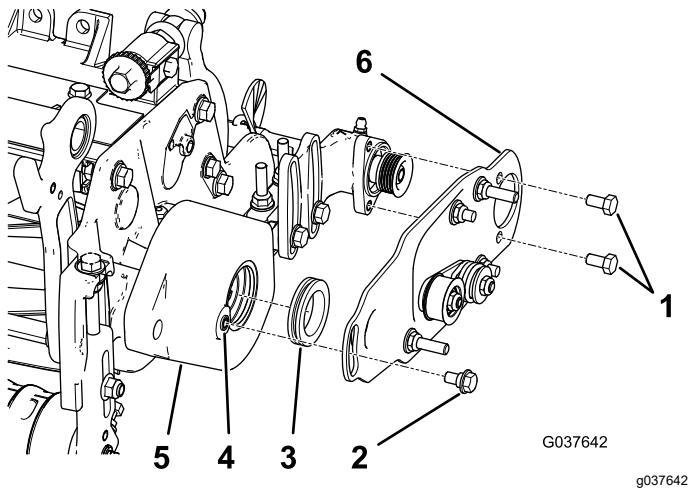

Figure 11
2. Apply a coating of grease to the inner diameter of the grommet in the roller-brush housing (Figure 11).
3. Install the left or right roller-brush plate (Figure 11).
4. Apply thread-locking compound to the 2 bolts (5/16 x 1/2 inch) and use them to mount the brush plate to the roller-brush bearing housing (Figure 11).
5. Clean out any paint from the threads in the roller-brush housing, using a 5/16-18 tap, before screwing in the shoulder bolt (Figure 11).
6. Apply thread-locking compound to the shoulder bolt (Figure 11).
- Secure the brush plate to the roller-brush housing with the shoulder bolt (Figure 11).